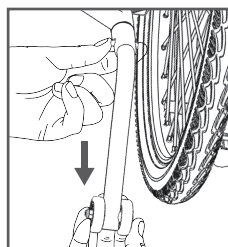

Figure 10
- Installation and removal of anti-roll wheel: hold the marble on the anti-roll wheel with your fingers while installing and insert it into the frame hole until the marble fastens into the marble hole of the wheelchair. While removing, hold the marble with one hand and pull the anti-roll wheel off backwards with the other hand, see Figure 10 (Note: tighten the cap nut on the inside while installing).